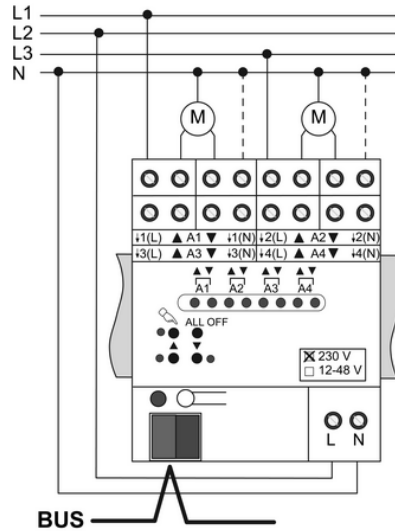

Figure 5
- Connect bus cable with connecting terminal (Figure 5).
- Connect mains voltage supply (Figure 5).
The associated N conductors are connected for the outputs in question (Figure 5).